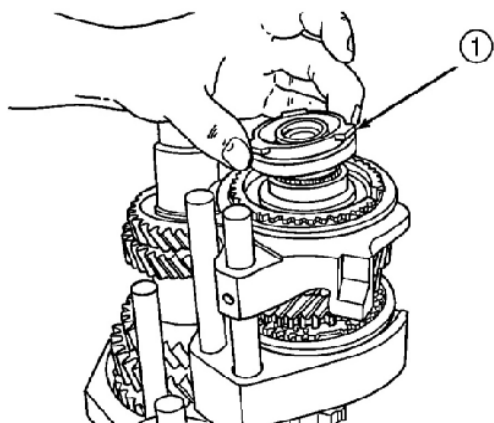
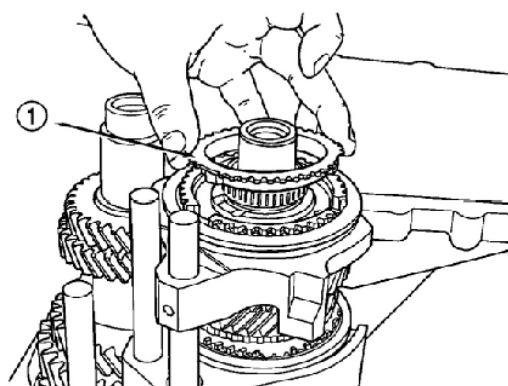

Figure 3-56 Reverse brake friction cone
Figure 3-57 Reverse brake lock ring
(22) Remove reverse brake friction cone and locking ring out of input shaft assembly (Figure 3-56) (Figure 3-57).